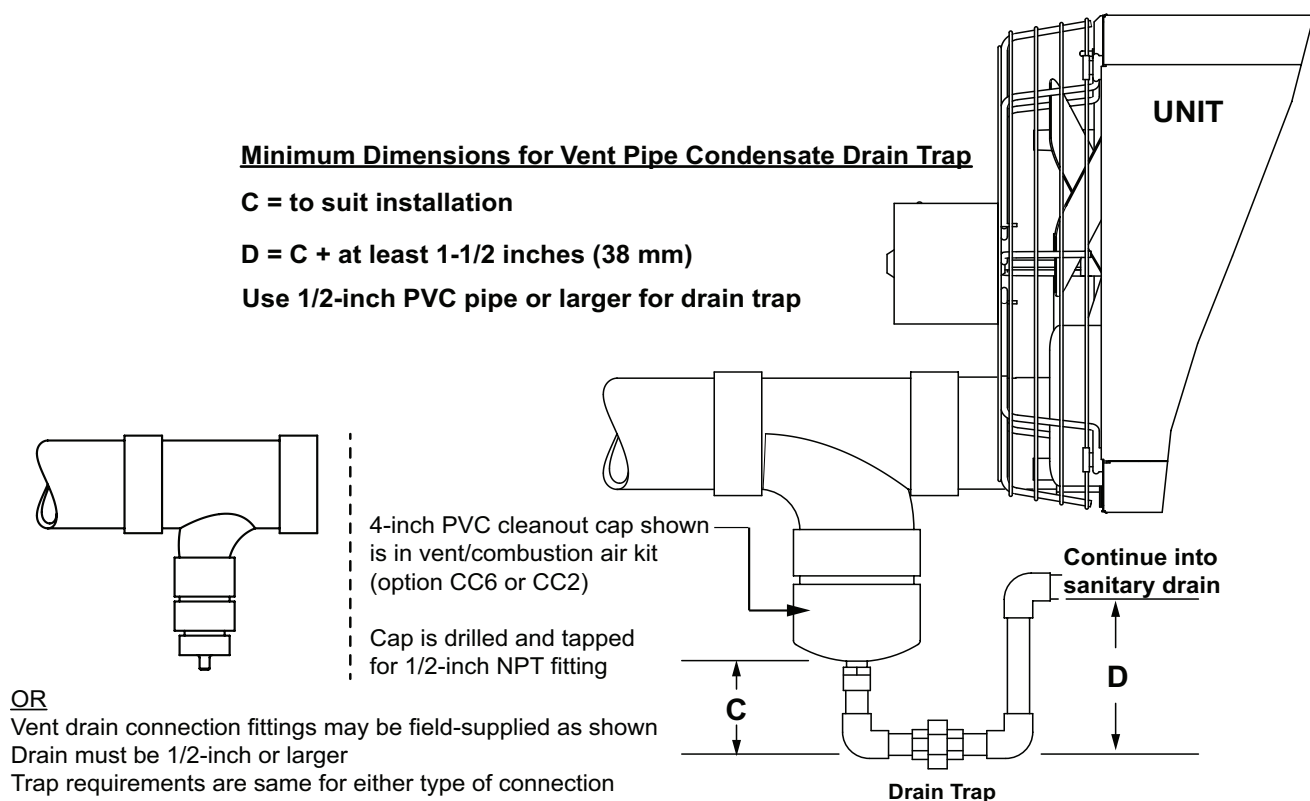
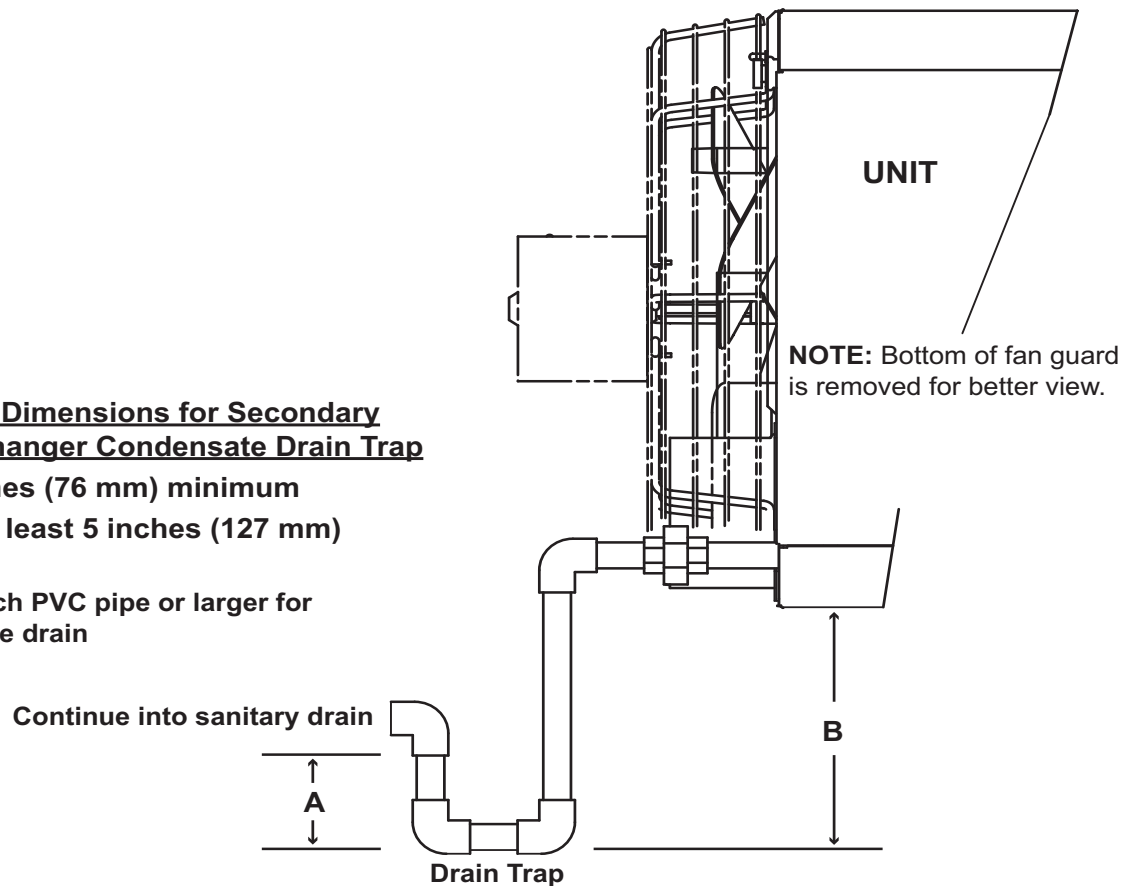

Figure 19. Vent Condensate Drain Trap
Figure 20. Heat Exchanger Condensate Drain Trap
- The most important part of fabricating and assembling the drain traps is the length of the individual legs of the traps. If the difference in the lengths of the legs of the traps are not as shown (see Figure 19 for vent drain trap or Figure 20 for heat exchanger drain trap), it could prevent proper drainage of the condensate and possibly permit vent gas to enter the building. Note that the length difference is also what provides a water seal to prevent the leakage of vent gas into the sanitary drain.
Install the vent condensate drain on unit sizes 130–310 as follows. Ensure that the drain trap is in accordance with Figure 19.
Install the heat exchanger condensate drain in accordance with all piping requirements listed in this manual and with Figure 20. For drain kit components and installation instructions for replacement heat exchangers, refer to the replacement parts manual found at www.reznorhvac.com.